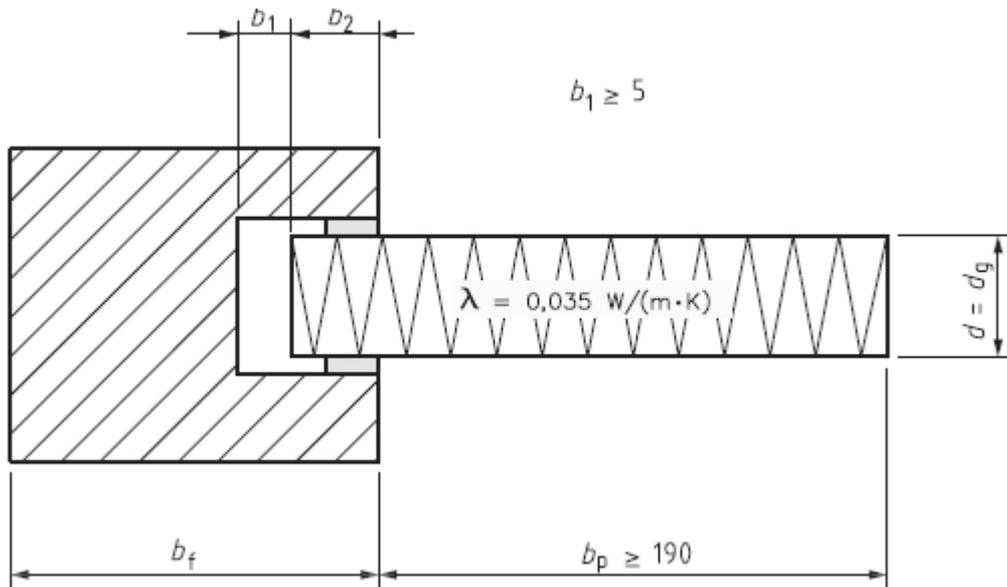

Figure 1: Preconditions for a Uf-value calculation
For the calculation of the window frame U-value according to the European standard EN ISO 10077-2, the glass unit has to be replaced by a panel (cf. figure 1) with the following characteristics:
- According to EN ISO 10077-1, the measurements b2 and bp should correspond to the larger of the two projected widths of the frame section, without taking into account the stripping between the frame and glass unit or panel (cf. figure 1).